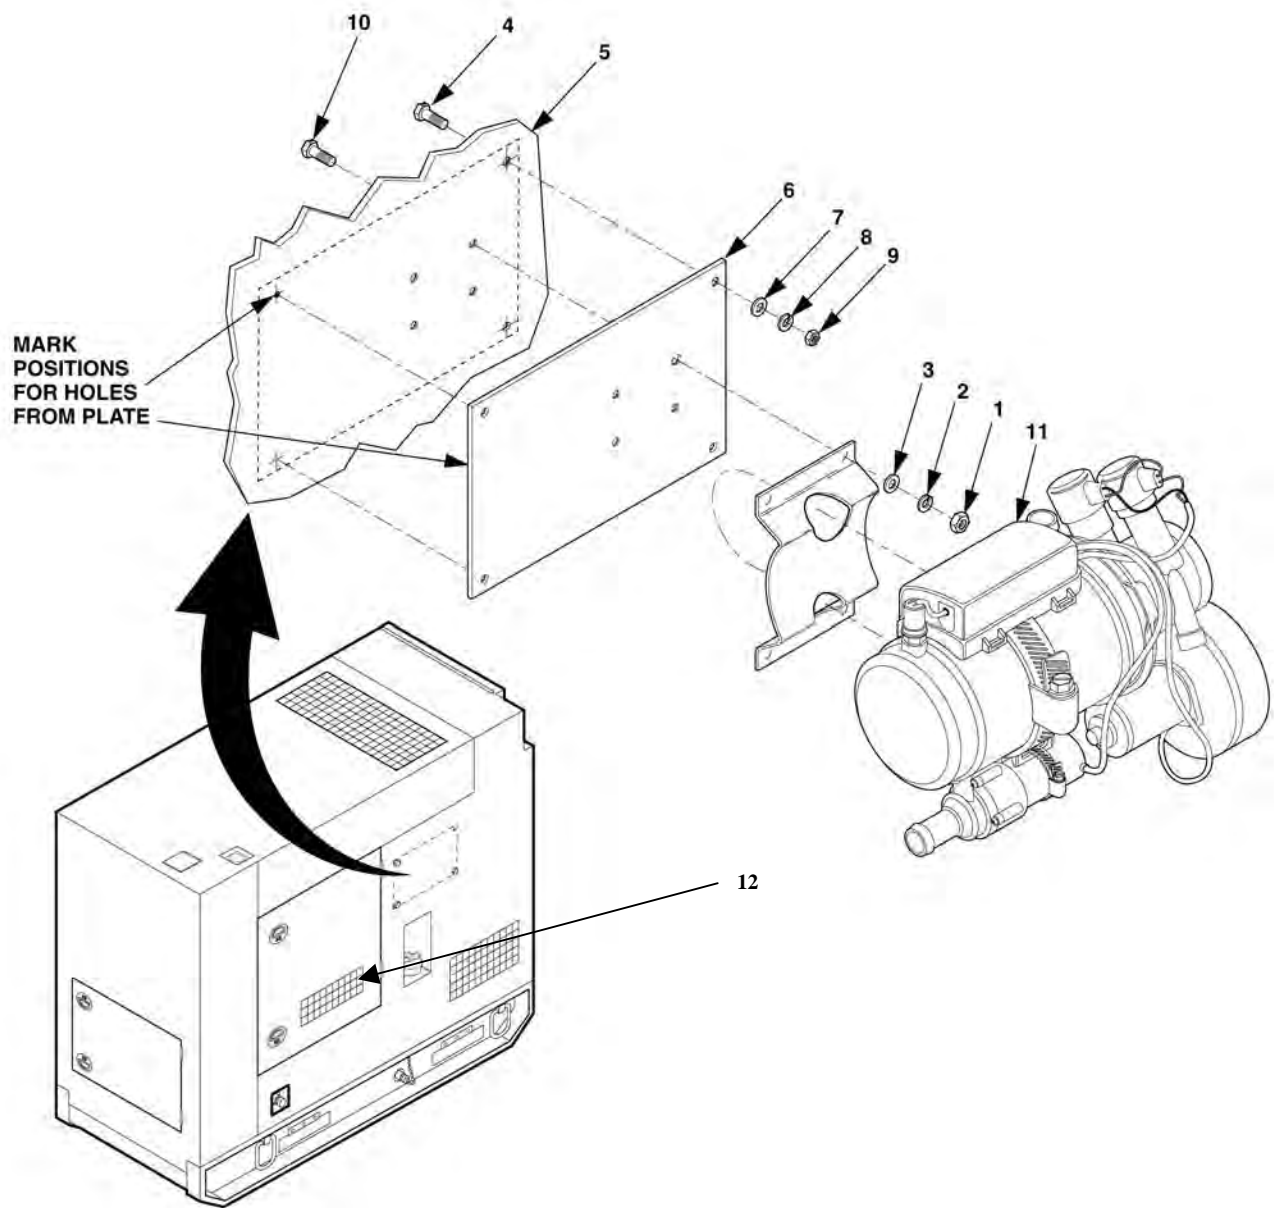

Figure 4-32. Heater Assembly
- 4. Open control panel access door (12), Figure 4-32.